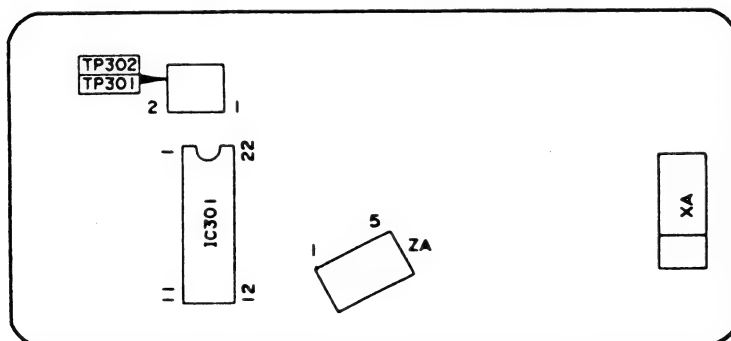

Figure 2-5. HEAD AMP PWB
6. Repeat the above step 5 to finally get the playback video signal level at  $1.0 \pm 0.05$  Vp-p, as shown in Fig. 2-5.